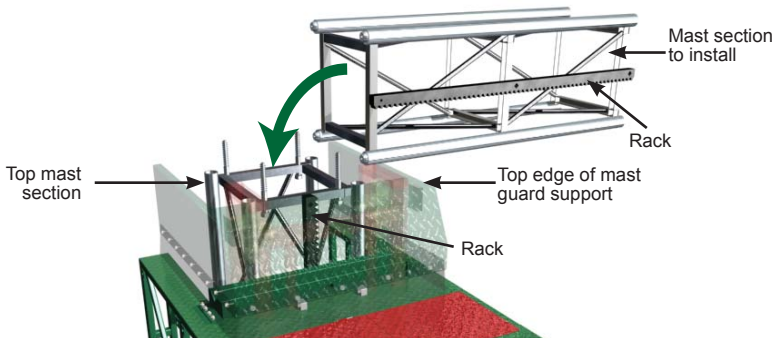

Fig. 6.1
- 6- Lift a mast section and lean its edge on the bottom edge of the mast guard structure (fig. 6.1). Raise the mast section to an upright position, making sure that the rack is on the power train side and is aligned properly with the rack on the bottom mast section. It is recommended to handle mast sections carefully so as not to damage the mast rack.